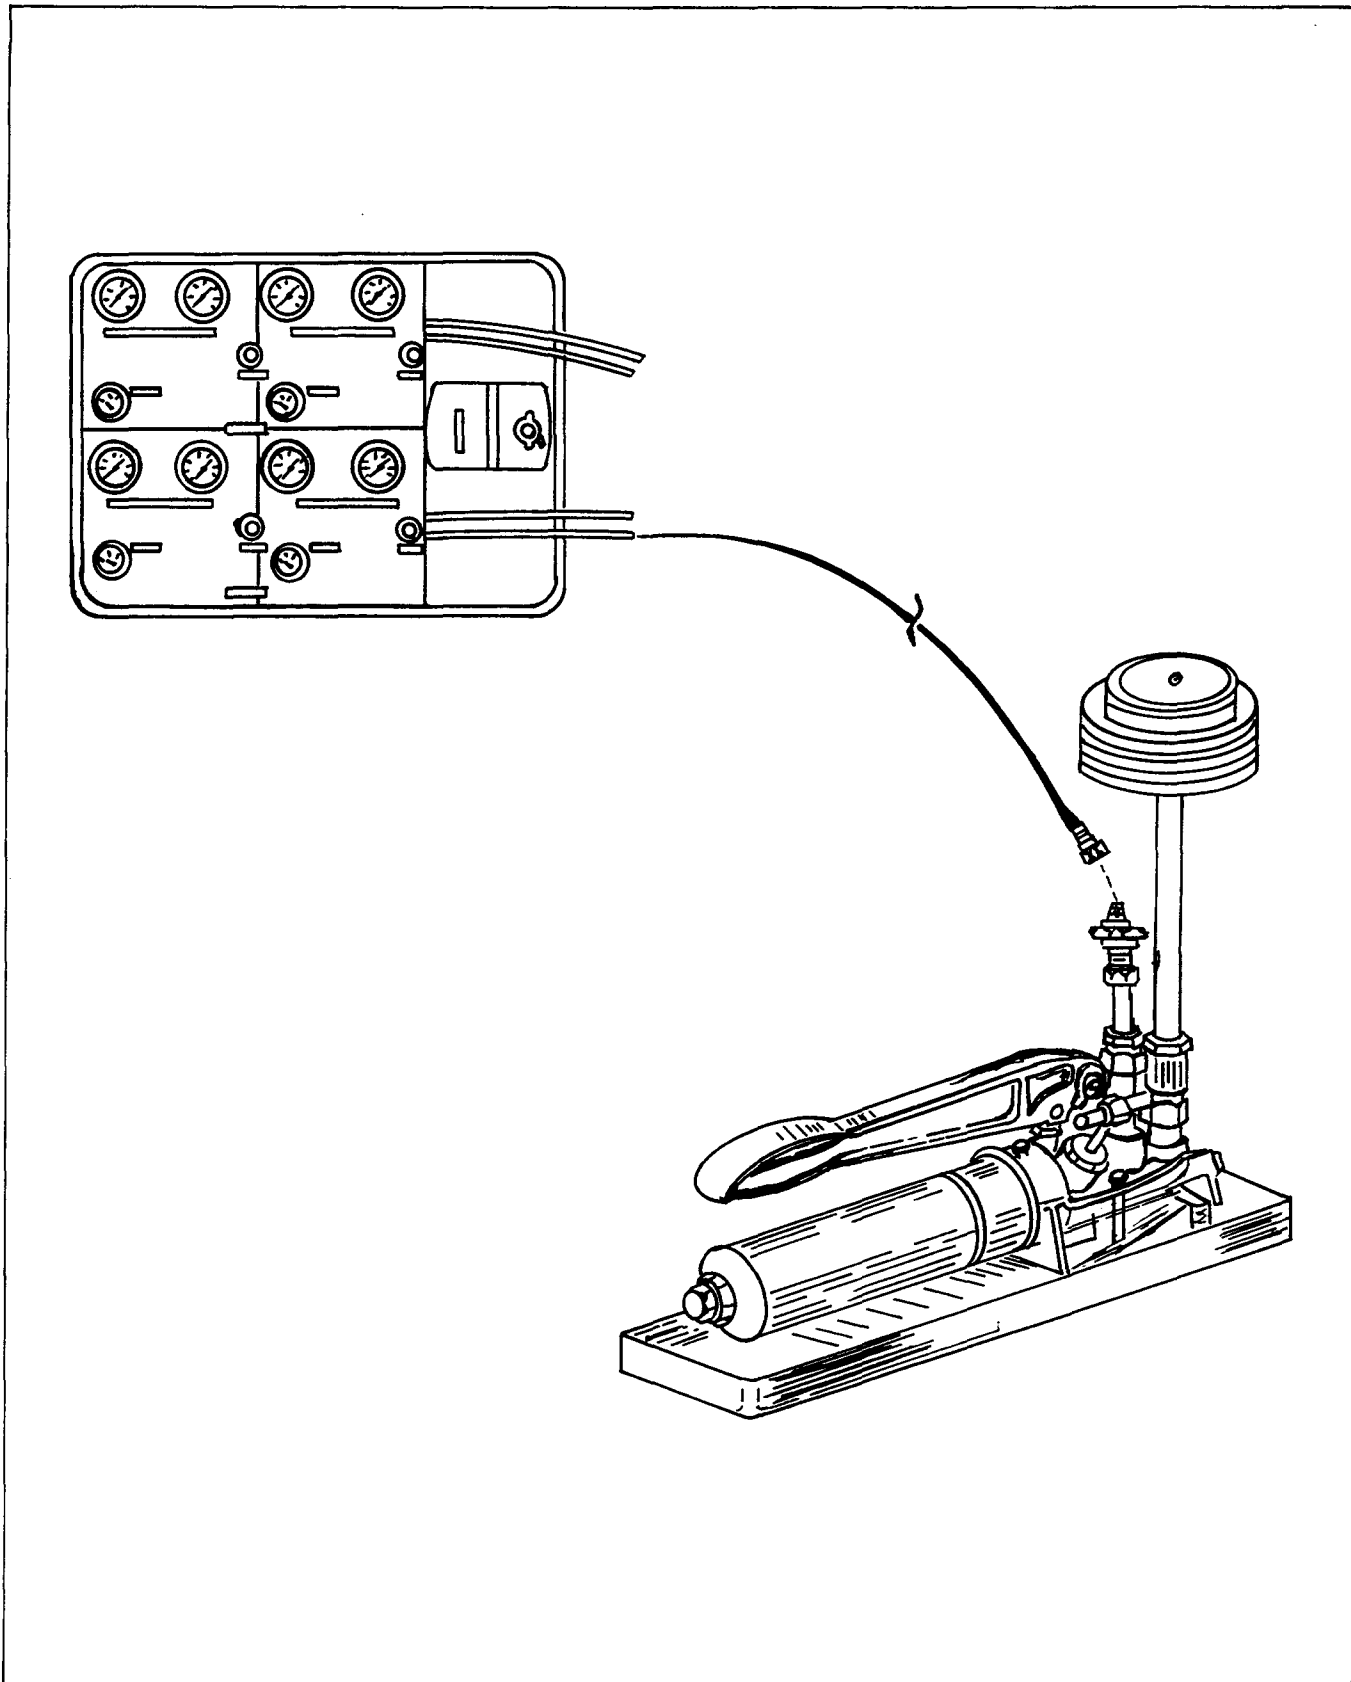

Figure 5-1. Calibration Test Set-Up
a. Connect the Test Set to the deadweight tester in accordance with Figure 5-1.
a. Connect the Test Set to the deadweight test cordance with Figure 5-1.